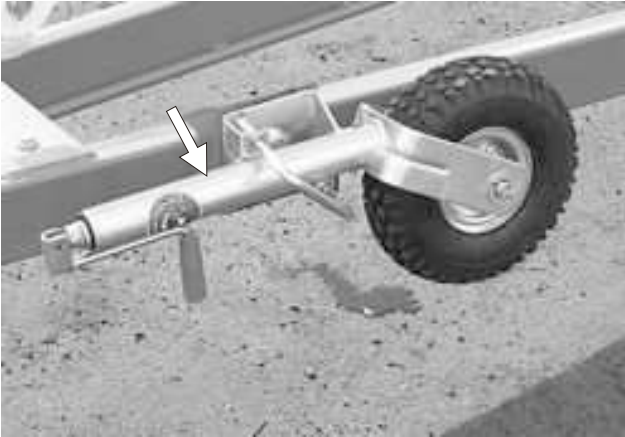

Figure 10.4 - Stowed Jockey Wheel
8. Retract the jockey wheel and place it in the stowed position (see Figure 10.4).